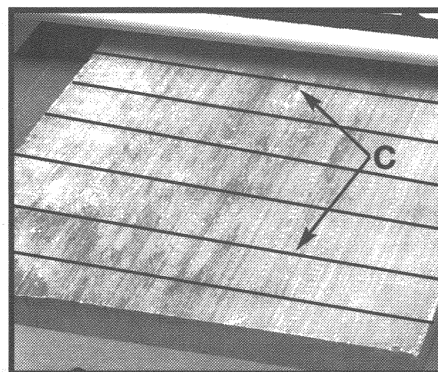

Fig. 19B
A. To do a quick check, draw pencil lines (C) Fig. 19B extending across the width of the board at several places along the length of the board. **DO NOT ADJUST THE TABLE HEIGHT AT THIS TIME.**